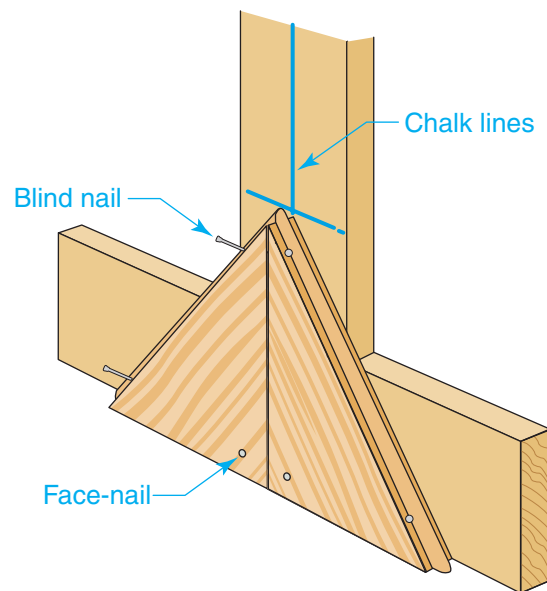

Figure 28-17 Starting the Boards
- Cut two pieces of paneling in the shape of a 45° triangle, with the tongue on the long edge, as shown in **Figure 28-17**.